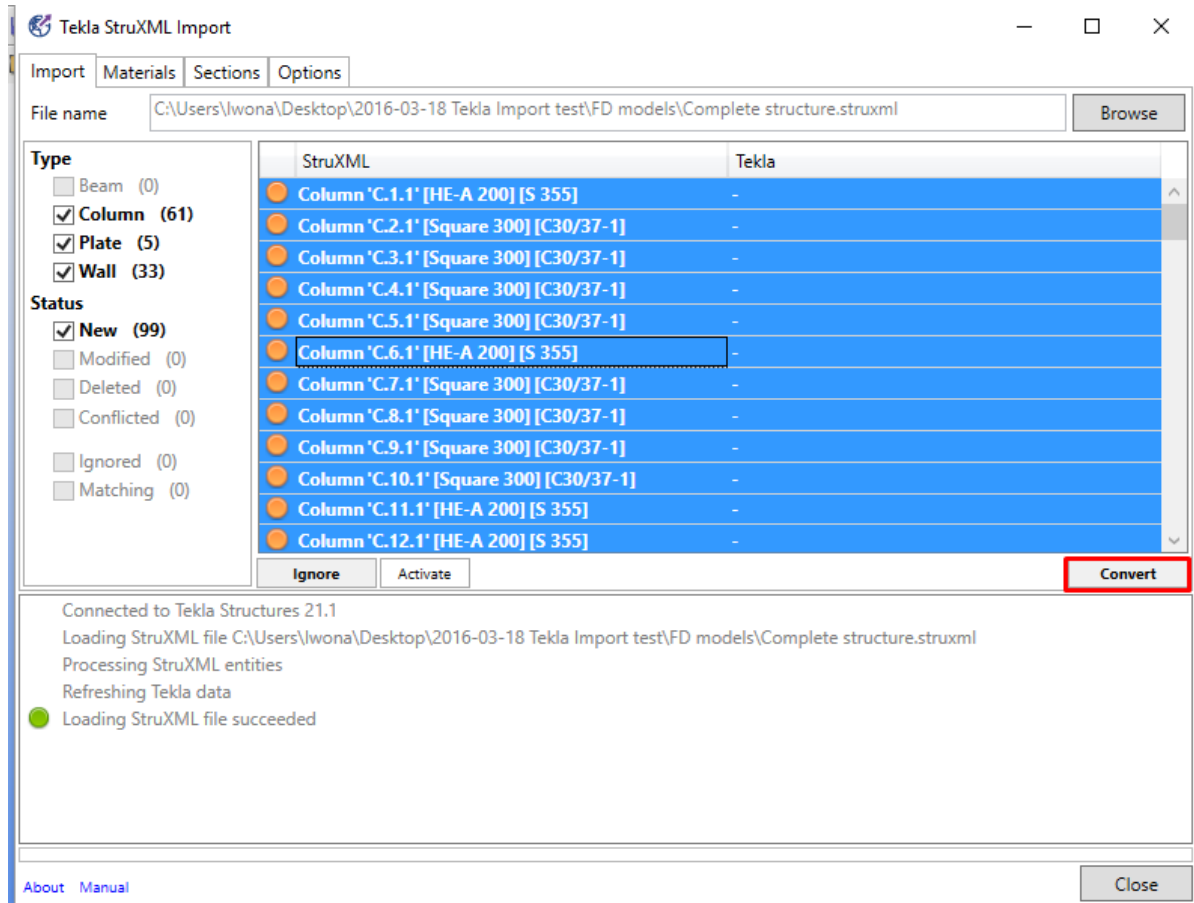

Figure 2-24
- select one random object and press Ctrl+A in order to select all objects (Figure 2-24)